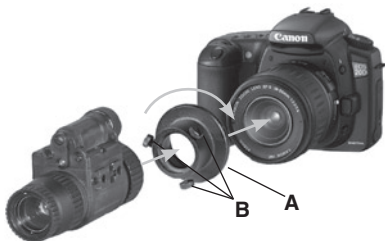

Figure 3.7
1. Screw Camera Adapter into the front lens of a photographic camera with thread M52x0.75 (Figure 3.7) or a video camera with thread M37x0.75 (use adapter ring, Figure 3.8, B) .
3. Connect the adapter (Figure 3.7, A) with the eyepiece and gently tighten three fixing screws (Figure 3.7, B) on the adapter.